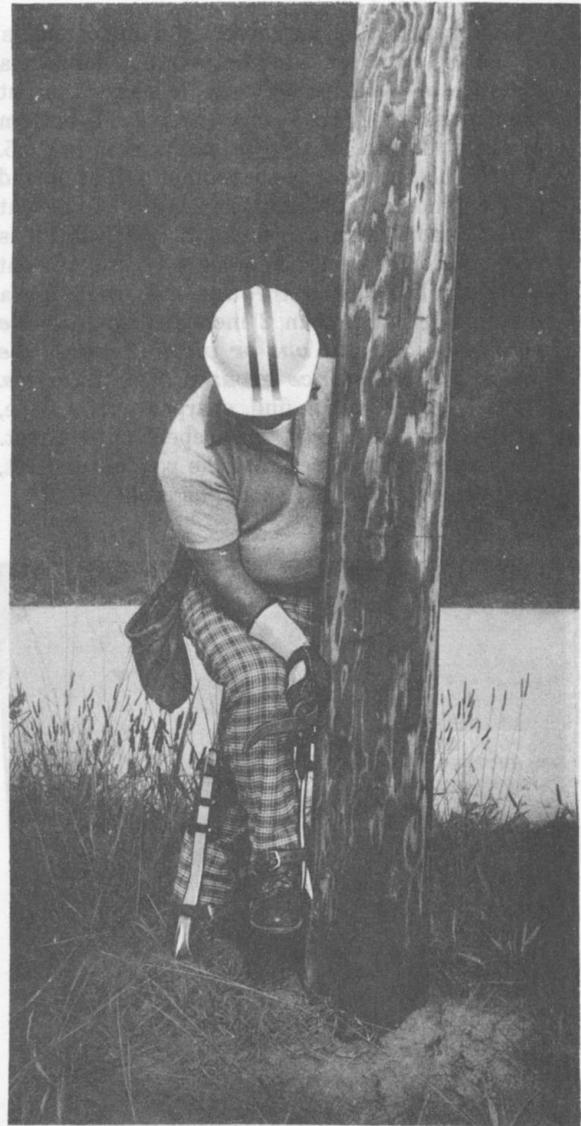
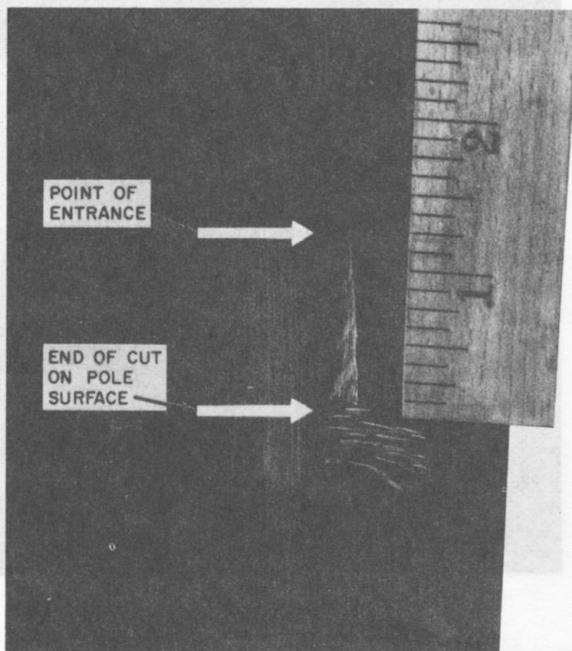

Fig. 14—Climber Holding
Fig. 15—Measuring Gaff Cut
(3) Keeping just enough pressure on the stirrup to keep the gaff in the pole, but not so much as to cause the gaff to penetrate any deeper, push the climber and your hand toward the pole by moving your knee until the strap loop of sleeve is against the pole as shown in Fig. 14.
(4) Making certain the strap loop is held against the pole with pressure from your leg, **gradually** exert full pressure straight down on the stirrup without raising your other foot off the ground, so as to maintain balance if the gaff does not hold.
(5) A gaff, which is correctly shaped and is sharp, will cut into the pole and hold in a distance of 2 inches or less. Measure the cut from point the gaff enters the pole to bottom of cut at surface of pole as indicated in Fig. 15. A gaff that is correctly shaped but dull or burred will cut in and hold but the length of the cut will be more than 2 inches. A gaff, which is very dull or deformed in some way, will cut out of the pole or plow through the wood for a distance greater than 2 inches. **Do not use climbers that cut out or plow through the wood for a distance greater than 2 inches.** If the climber gaff is dull, sharpen with a hone, as described in Part 7 and repeat cutout test. If climbers still do not pass the pole cutout test, they are defective and should be replaced.